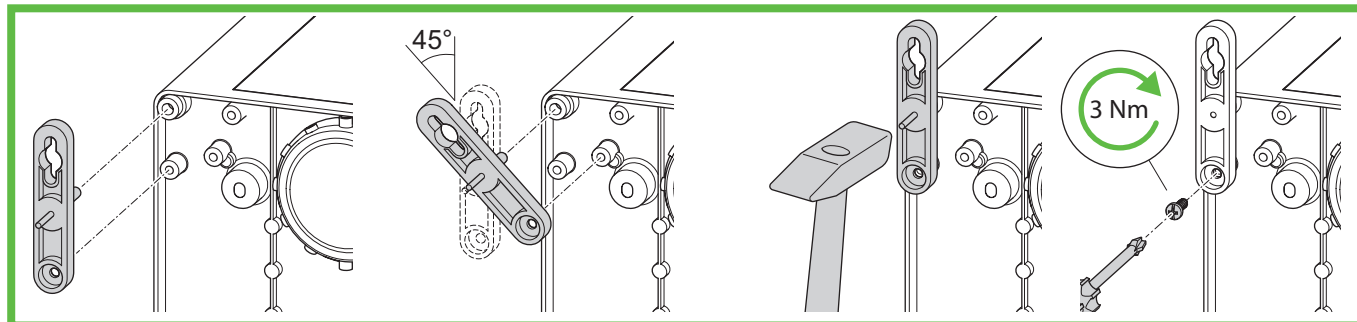
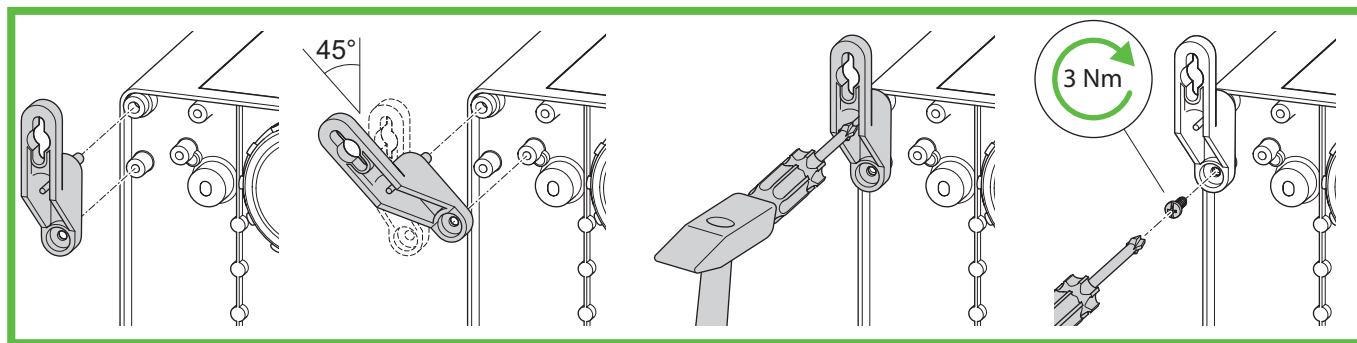

Figure 10: Assembly ABL-10
Figure 11: Assembly ABL-40
- ▶ Mount the external fixing brackets (Figure 10 or Figure 11).